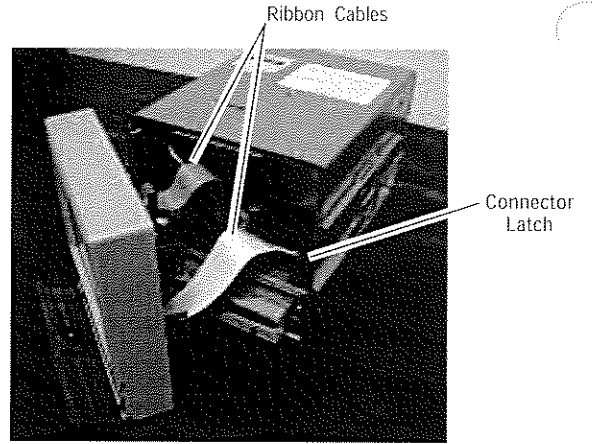

Figure 8-3. Unplug Ribbon Cables
3. Hold front display assembly and lift it up slightly to remove from frame (see Figure 8-3).
4. Unplug the left ribbon cable from connector. For the second ribbon cable, slide the latch towards you. Slide ribbon cable out from the connector assembly (see Figures 8-3 and 8-4).